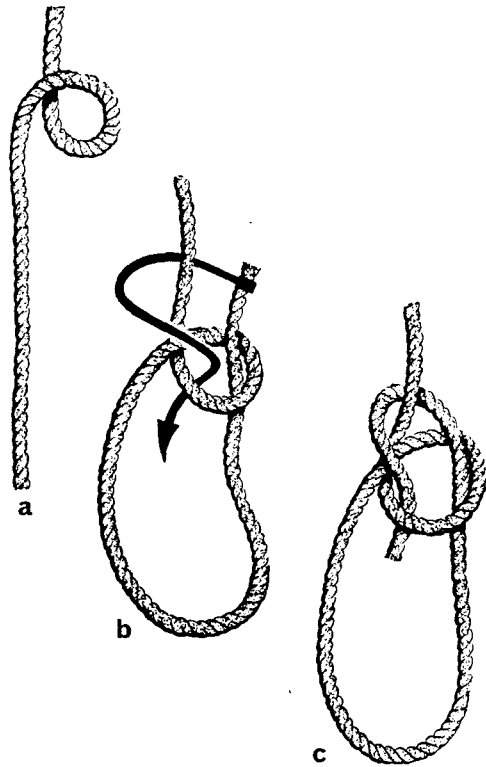

Fig 8.14 Bowline
There are many ways of making a bowline, but the method illustrated in Fig 8.14 is probably the simplest:
- Pass the end of the rope behind the standing part and back down through the gooseneck (Fig 8.14), thus forming the completed bowline.